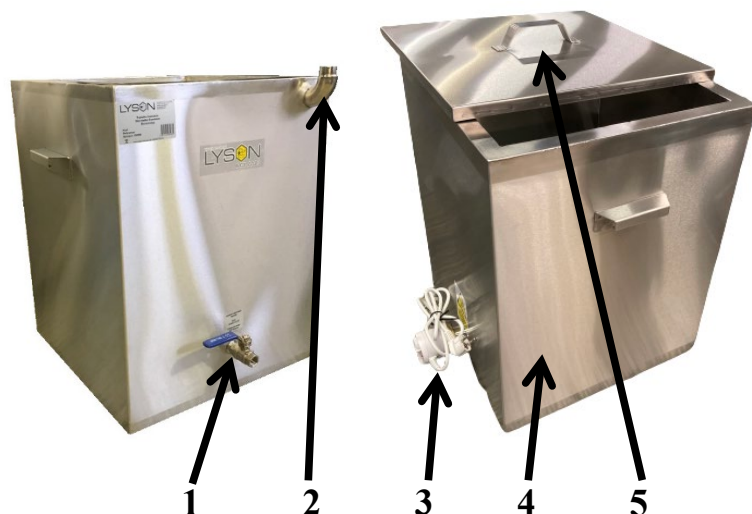

Fig.1
1. Before plugging the device in to the mains outlet, fill the heating system with water through the bleed nipple (2 on Fig.1.) Make sure that the heater is switched off.